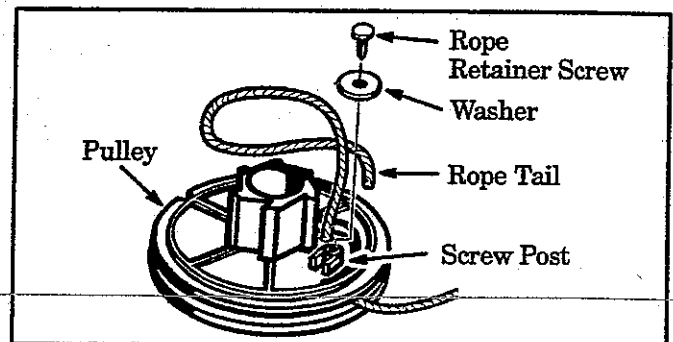
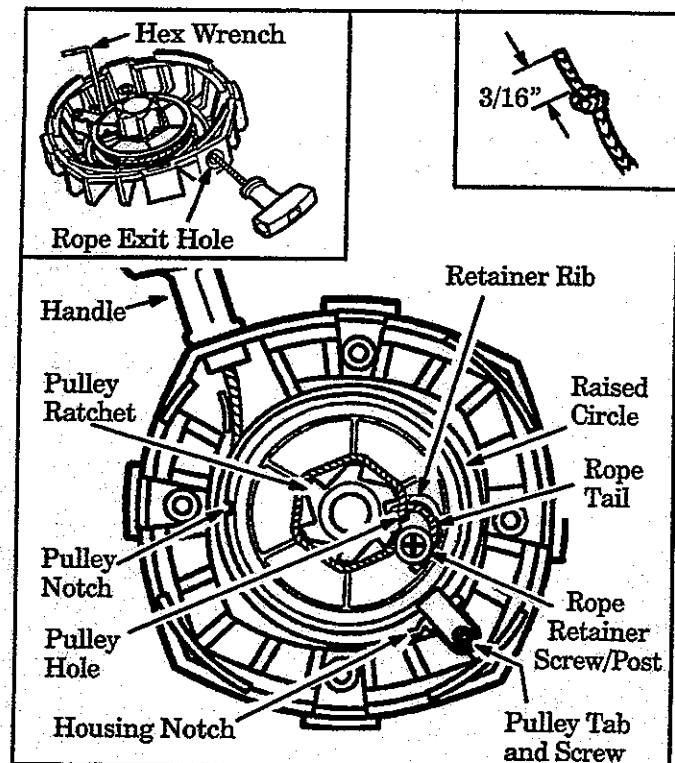

Figure 28
Figure 29
11. Remove the rope retainer screw. Figure 28 . Remove any remaining rope from around the pulley ratchet. Figure 29 .
12. Hold pulley housing as shown in Figure 29 (inset). Hand turn pulley clockwise as far as it will go.
13. Turn pulley counterclockwise until the pulley notch is aligned with the housing notch next to the pulley tab and screw. Figure 29 .
15. Insert the hex wrench into the hole formed by the notches to hold the pulley in position. Figure 29 (inset—upper left).
19. Insert one end of the rope through the handle and secure with a knot. Leave a 3/16" pigtail behind the knot. Figure 29 (inset—upper right).
20. Insert other end of the rope through the rope exit hole into the inside of the housing, into the pulley and up through the pulley hole. Figure 29 .
21. Wrap the rope counterclockwise around the pulley ratchet and tuck loose end under the rope at the pulley hole. Figures 28 & 29 . Leave a 1 inch tail laying flat on top of the pulley *between* the retainer rib and the retainer post. Figure 29 . The rope tail *must not* extend beyond the raised circle on the pulley to prevent interference with the pulley tab. Figure 29 .
22. Thread rope retainer screw into the screw post. Figure 29 . Do not overtighten screw.